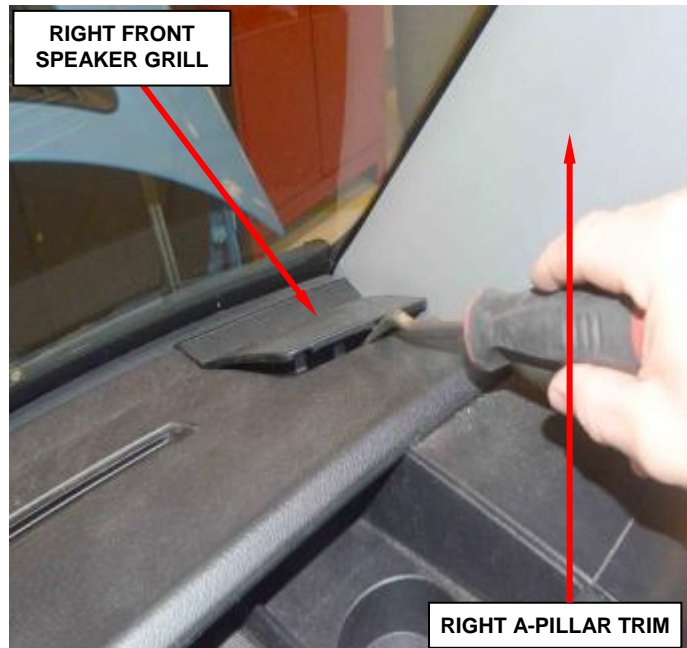

Figure 147 – Right Front Speaker Grill
7. Remove the right front speaker grill (Figure 147).